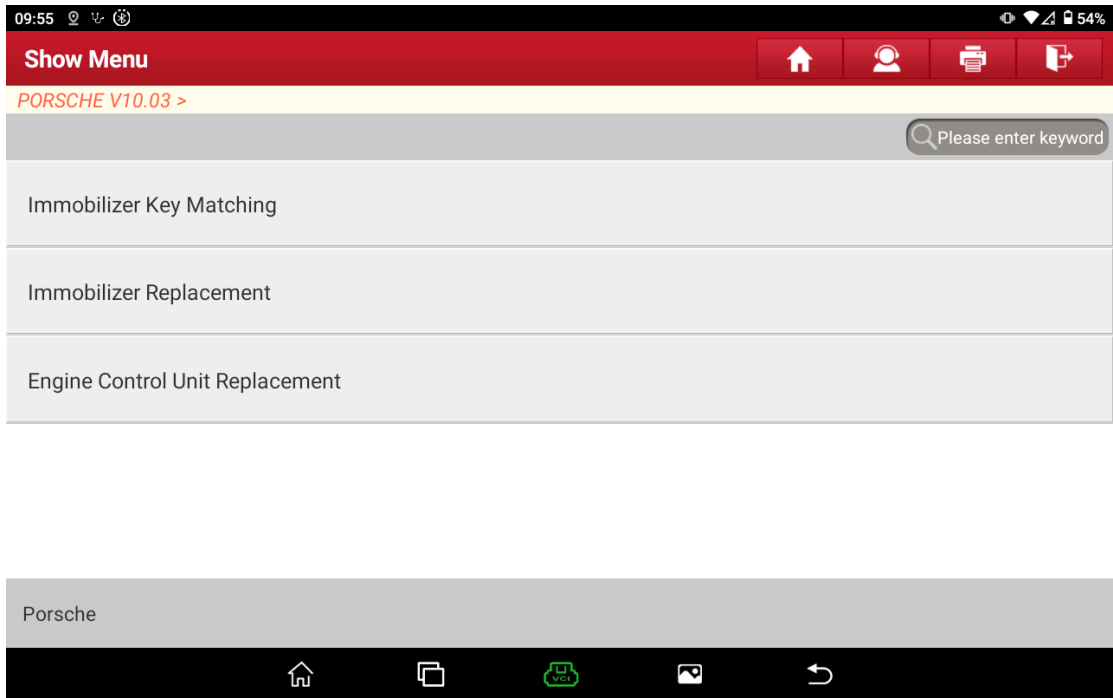

Figure 2 Main function menus
1. Access the Porsche immobilizer software. The main function menus are shown in Figure 2.